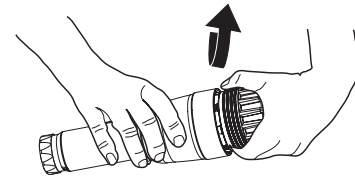

Figure 11
3. Thread the outer extension tube onto the cup assembly and tighten (see Figure 11).